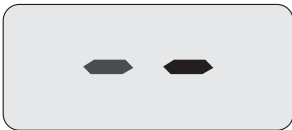
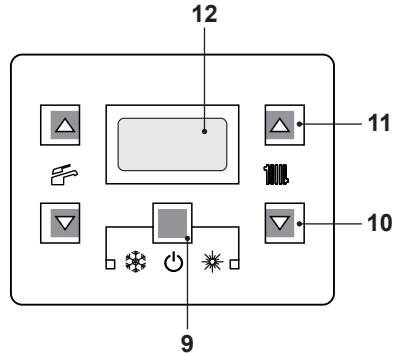

Fig. 7.6
Fig. 7.7
- Electrically power the boiler by switching on the double pole isolation switch. The LCD will display, the  symbol (Fig. 7.6).
- Press the 9 key for 2 seconds until  symbol appears on the display Fig. 7.7.
- Switch off the boiler by pressing the 9 (Fig. 7.7) key for 2 seconds until the  symbol appears on the LCD display (Fig. 7.6).
Press the reset key on the boiler control panel 9 (Fig. 7.7) to reset its functioning.